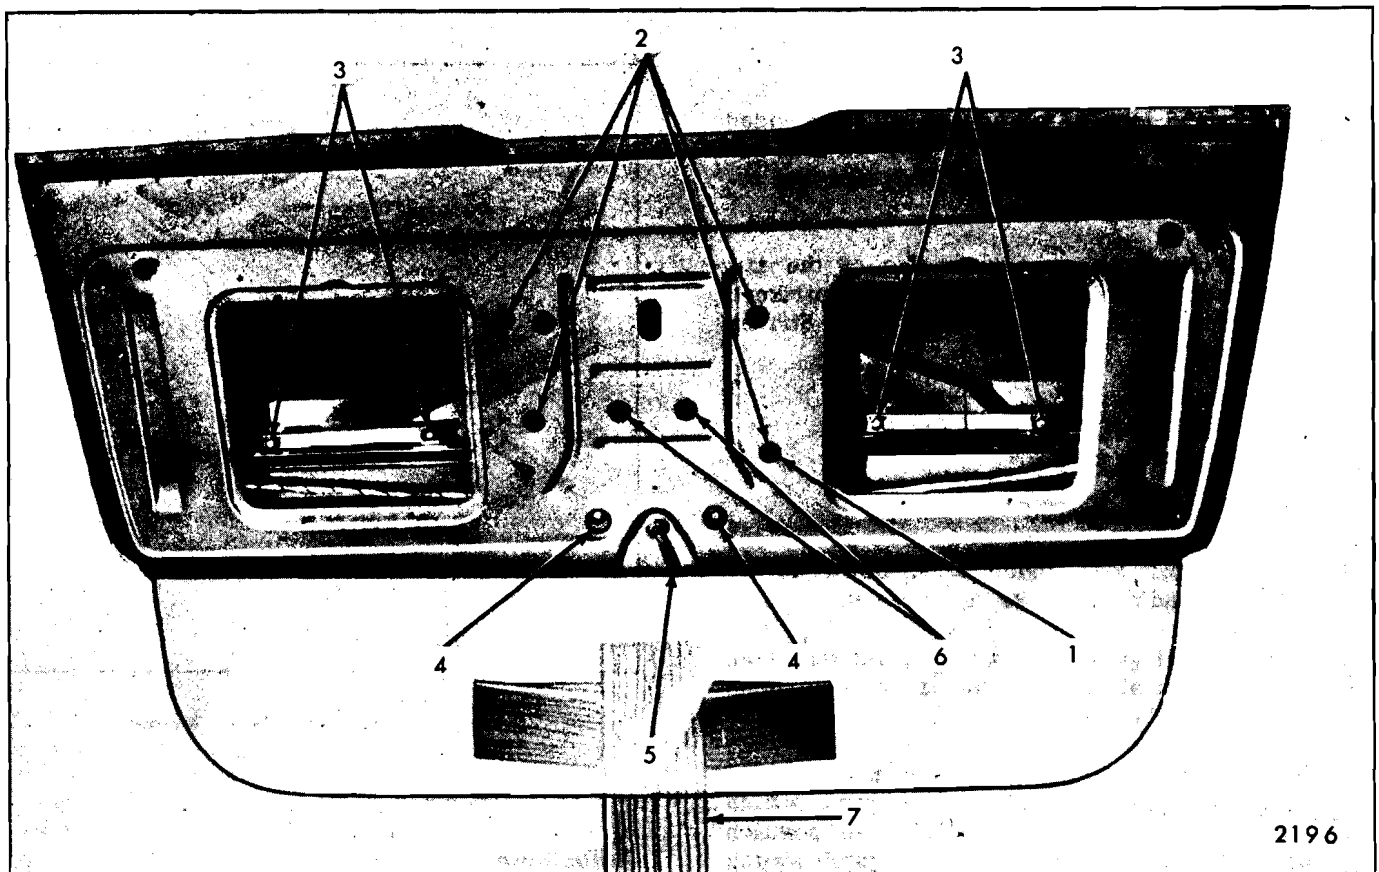

Fig. 9-44—Tail Gate Window Hardware
2. On manual styles, position tail gate window so that outside handle attaching nuts are accessible through gate inner panel and window regulator access holes (Fig. 9-44). Remove attaching nuts.